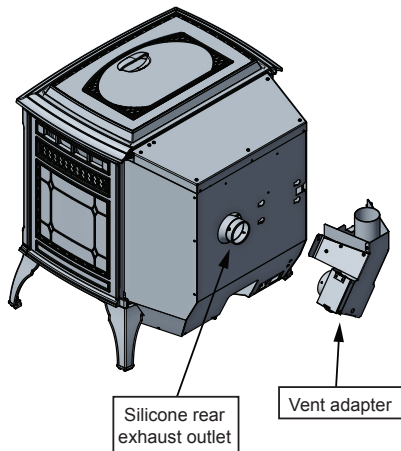

Figure 2
- Slide the Top Vent Adapter (**C1**) onto the exhaust outlet over bead of silicone making sure the adapter is in the vertical position (**Figure 2**).